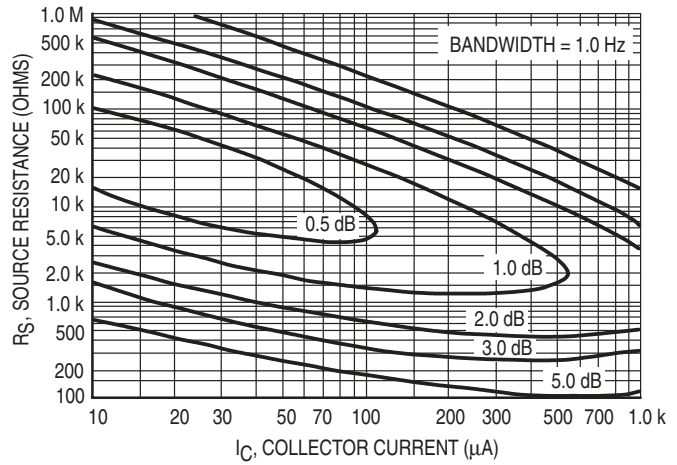

Figure 4. Narrow Band, 1.0 kHz
- I_n = Noise Current of the Transistor referred to the input. (Figure 4)